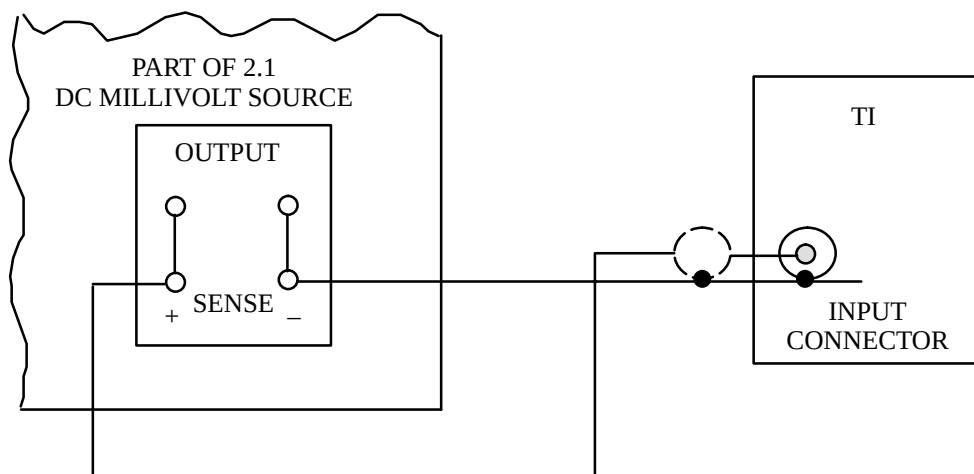

Figure 1. mV/pH Indication Test Setup
4.1.1 Ensure that the DC millivolt source (item 2.1) is in the standby mode and then connect the equipment as shown in Figure 1.
4.2.1 Connect the equipment as shown in Figure 1. (Remove the BNC shorting connector or G.E. shorting plug). Connect the temperature probe plug to the TI small input connector adjacent to the input connector.